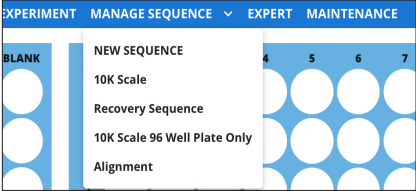

Fig. 24—The *Manage Sequence* menu lists the existing sequences.
1. To create a measurement sequence, select the *Manage Sequence* menu. A list of the existing sequences displays (Fig. 24), and you can open and edit any existing sequence or select *New Sequence* to create a new one.